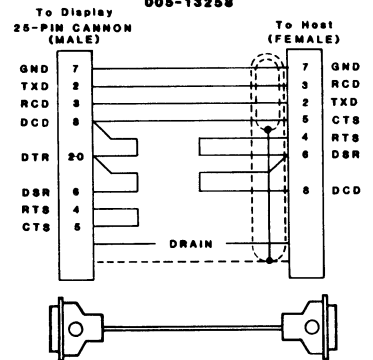
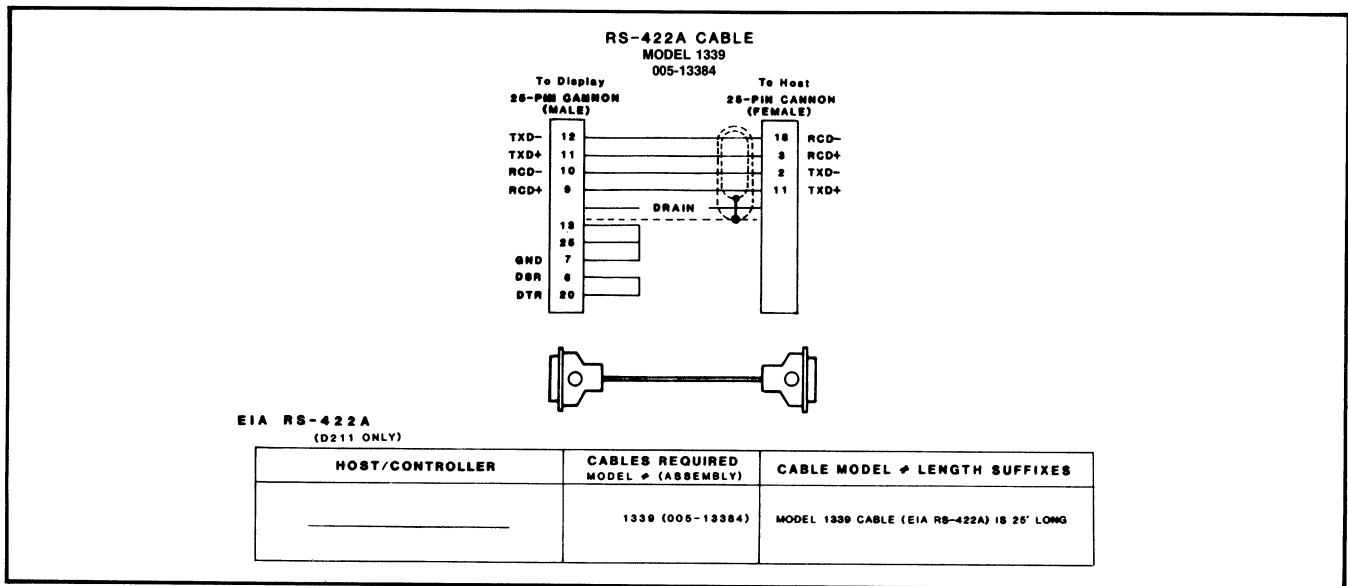

Figure 4-4. Data General EIA Host/Terminal Interface Cables
Figure 4-5. RS-422A Host/Controller Cable (D211 Only)
**NOTE:** *Figure 4-4 shows the EIA cables available from Data General for Data General host systems; when not using a Data General EIA cable for an EIA connection, wire the terminal end of the 25-pin Cannon connector as shown in Figure 4-5. Figure 4-6 shows the 20-mA current loop cables from Data General. Data General 20-mA current loop cables are all wired for a passive connection where the host system supplies the power to drive the terminals interface. When a Data General Current Loop cable is not used for a 20-mA current loop connection, wire the 25-pin Cannon connector for a passive connection.*